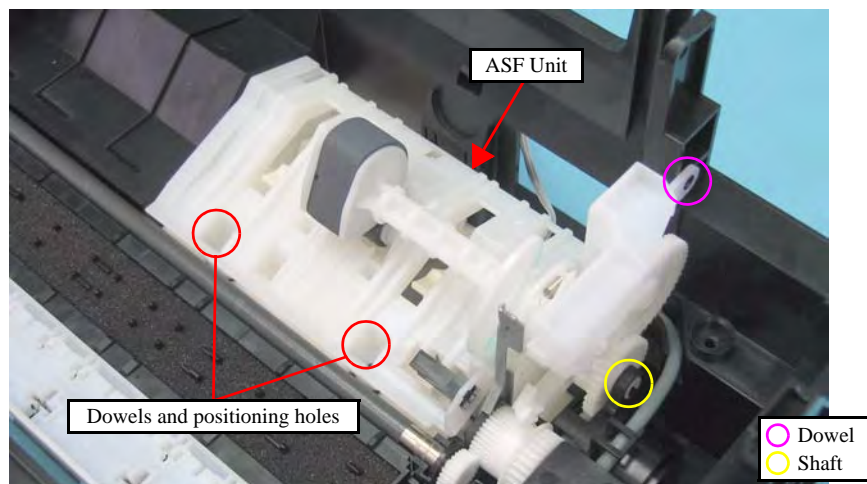

Figure 4-85. Removing the ASF Unit (2)
- When installing the ASF Unit, be sure to align the dowels (x2) of the Base Frame with the positioning holes (x2) of the ASF Unit as shown in Figure 4-85.